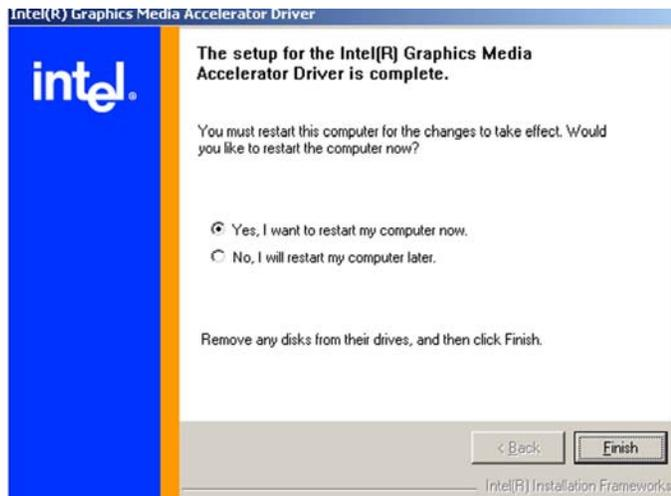

Figure 6-14: GMA Driver Installation Complete
Step 13: A confirmation screen shown in **Figure 6-14** appears.
Step 14: After selecting when to restart the computer in **Figure 6-14**, click **FINISH**.